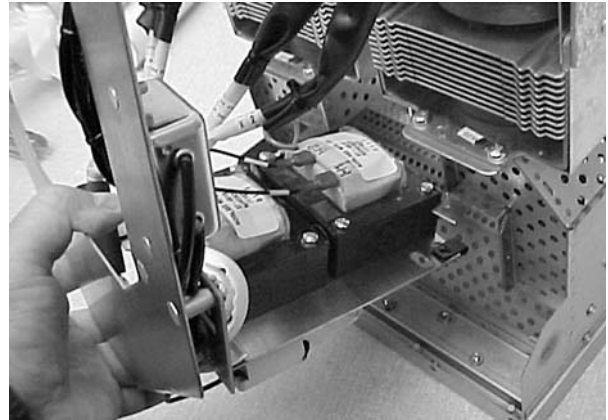

Figure 4-12 Transformer and Connector Bracket
- See Figure 4-12. Pull the the transformer and connector bracket from the lamphead base